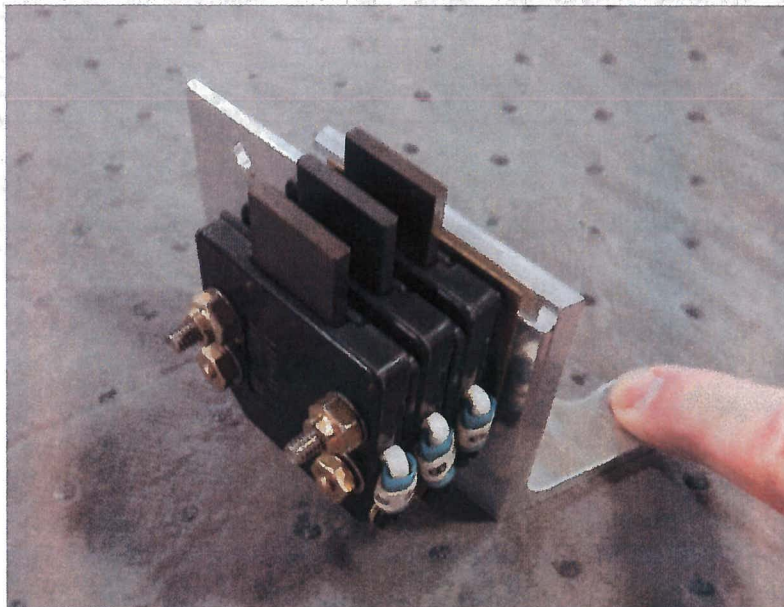

Figure 3
- d) Temporarily install P/N 3H2042-1 modular brush block assembly onto bracket using a B-3837-N832 washer and B-6655-08 nut on each bolt as shown in **Figure 3**. Do not torque at this time.